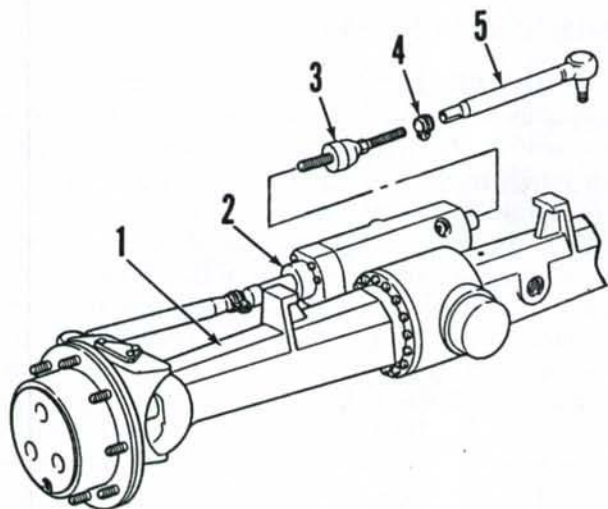

Fig. 40—Steering cylinder is contained in back side of front drive axle housing.
32. OVERHAUL. The power steering cylinder is contained in the back side of front drive axle housing. See Fig. 40. Cylinder can be disassembled without removing axle assembly.
Apply Loctite 242 to the first three threads and install threaded studs (3—Fig. 40) in cylinder rod ends.